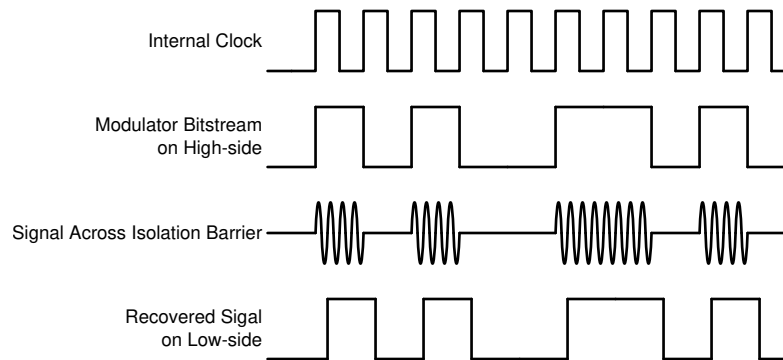

Figure 7-1. OOK-Based Modulation Scheme
The AMC1302 uses an on-off keying (OOK) modulation scheme, as shown in Figure 7-1, to transmit the modulator output bitstream across the SiO₂-based isolation barrier. The transmit driver (TX) shown in the Functional Block Diagram transmits an internally-generated, high-frequency carrier across the isolation barrier to represent a digital *one* and does not send a signal to represent a digital *zero*. The nominal frequency of the carrier used inside the AMC1302 is 480 MHz.